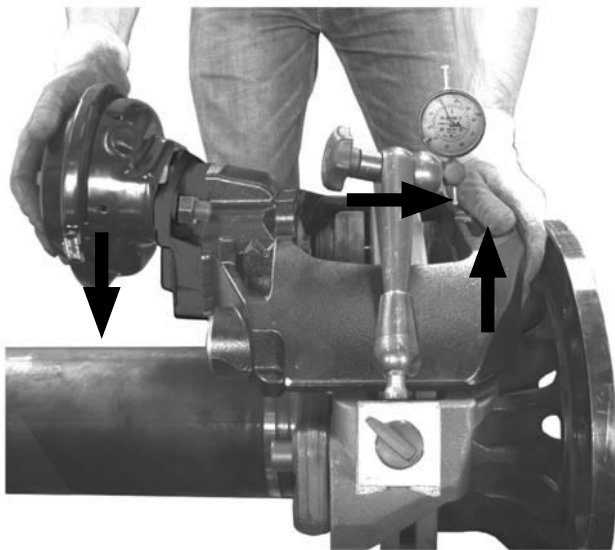

Figure 18: Tilting brake chamber to axle
4. **Fasten** the magnetic dial indicator support to the brake carrier or the axle (Figure 18).
6. **Press** the dial indicator against the measuring point on the brake caliper (Figure 18).